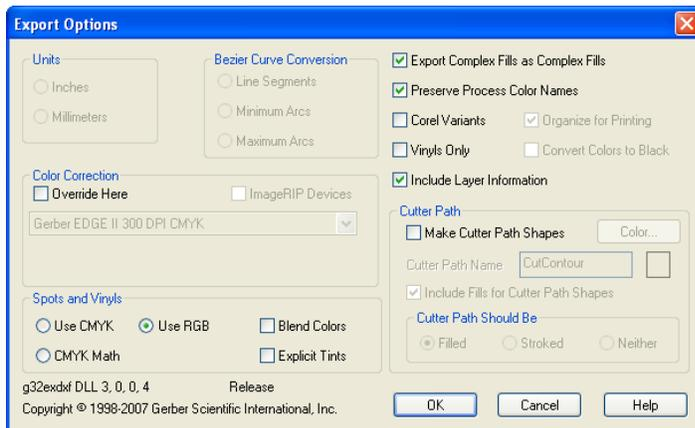

Figure 36
5. Check Export Complex Fills as Complex Fills, Preserve Process Color Names, and Include Layer Information. See Figure 36 on page 68.